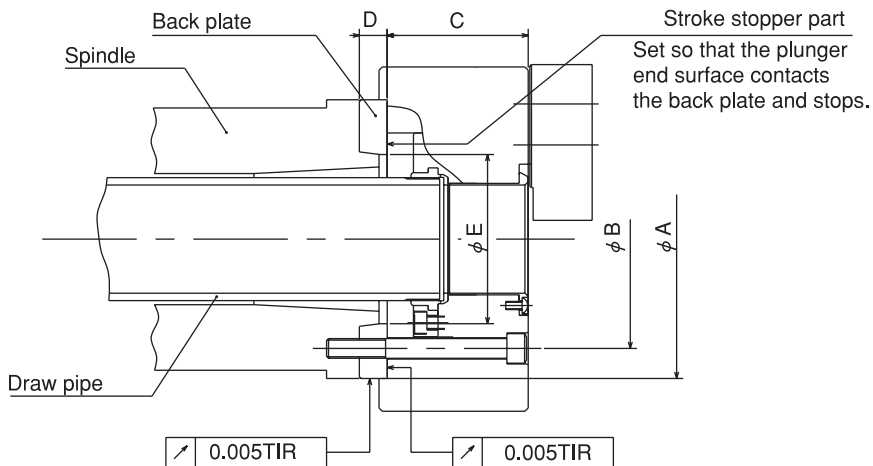

Fig.19
- Fig.19 shows the case of the JIS short taper standard.